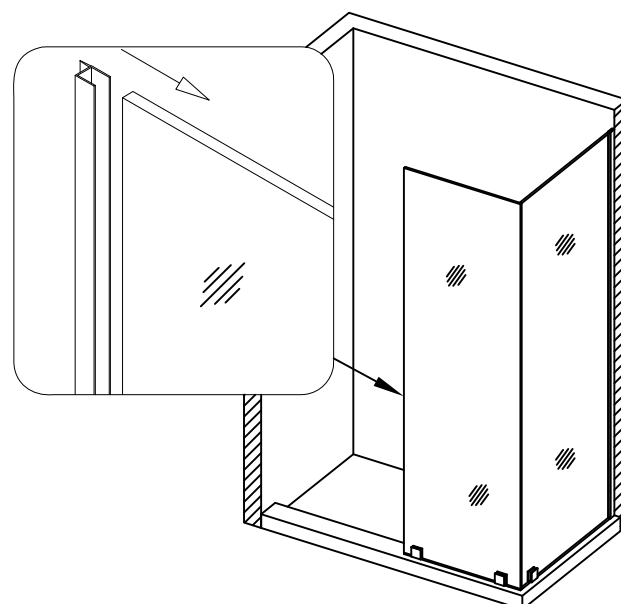

Figure 20
See Figure 20 for details.
21. Attach the Hinges (05) to Glass door (01). The smooth flat surface of Hinge (05) should be installed on outside of glass door. See Figure 20 for details.